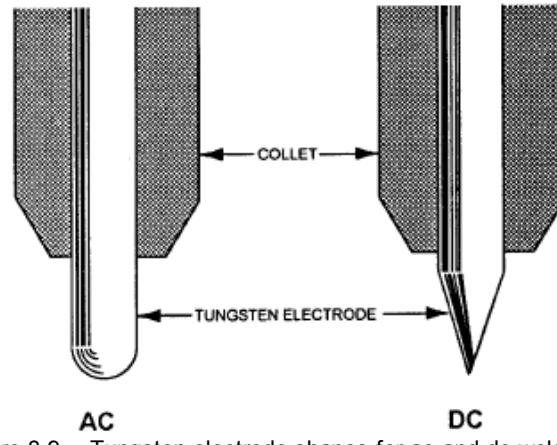

Figure 8-9.—Tungsten electrode shapes for ac and dc welding.
To produce good quality welds with the GTA process, you must shape the electrode properly. The general practice is to use a pointed electrode with dc welding and a spherical end with ac welding (fig. 8-9).
- Check the size, appearance, and position of the tungsten electrode in the torch. Ensure that the electrode diameter and nozzle size meet the manufacturer's recommendations. The tip should be properly shaped as discussed earlier (refer to figure 8-9). The electrode should extend beyond the end of the gas cup a distance ranging from 1/8 to 3/16 of an inch for butt welding and 1/4 to 3/8 of an inch for fillet welding. Check the electrode for positioning and good electrical contact. The electrode should be clean and silvery. A dirty tungsten electrode can usually be cleaned satisfactorily with a fine emery cloth. If severely contaminated, the electrode should be replaced or the tip broken off and dressed on a grinding wheel. A contaminated tungsten electrode and a good tungsten electrode are shown in figure 8-12.